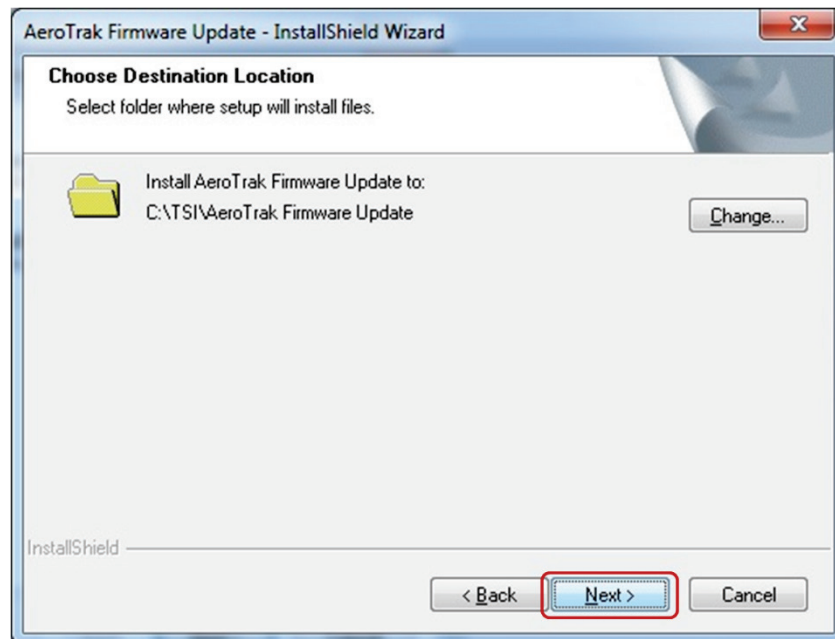

Figure 2
2. Install to the default location by selecting the **Next >** button or change the location of the installed files by selection the **Change...** button (Figure 2).